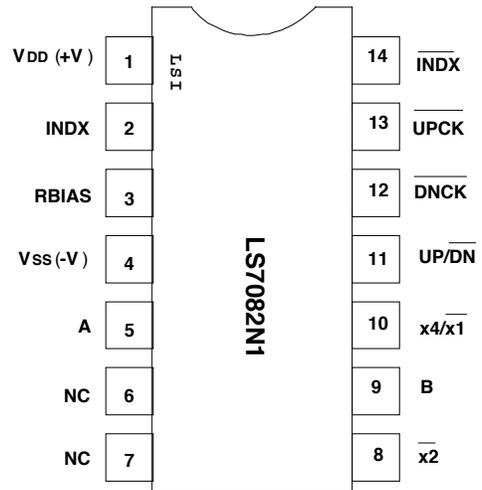

FIGURE 1
- **LS7082N1** (DIP); **LS7082N1-S** (SOIC) - See Figure 1